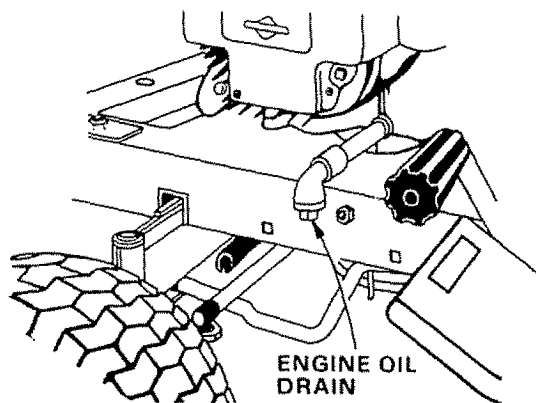

FIGURE 18
- c. Loosen oil drain plug (Fig. 18). Remove dipstick.